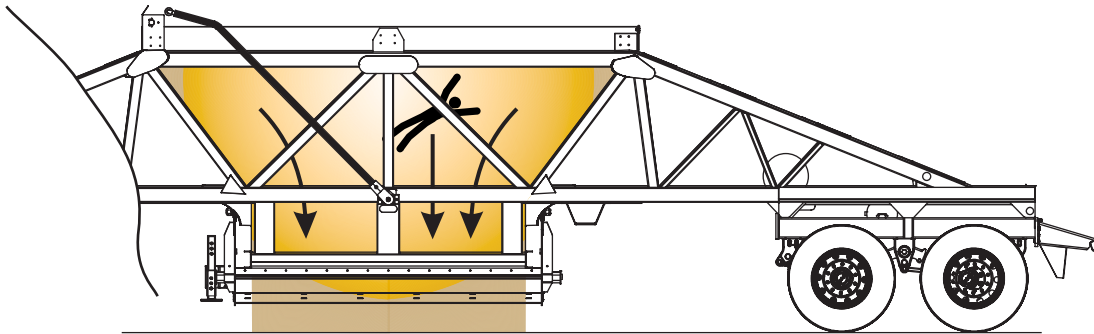

Figure 3-33 – Entrapment Hazard
- Depending on the product being hauled, a solid appearing surface may actually fail to support the weight of a worker, resulting in an entrapment/engulfment condition (Figure 3-33).